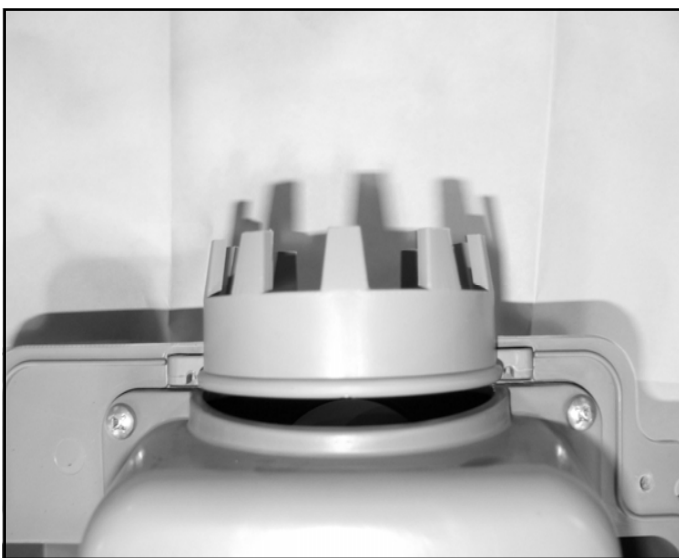

Figure 13 Coupler
1. With *Phill* mounted securely on its support assembly, loosen the 5 housing screws and swing the front of the housing open. Attach the coupler to the rear housing (see Figure 13) with screws provided.